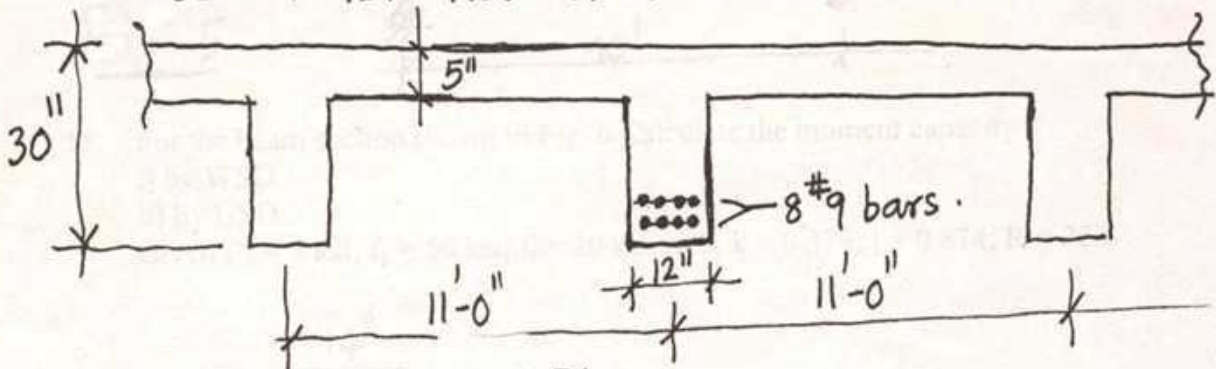

Fig. 2
7. A floor slab, 5 inch thick, is supported by simply supported beams having span of 32 ft. and spaced 11 ft. c/c is shown in Fig. 2. The beams are reinforced with 8 nos. # 9 bars as shown. Compute design moment for a beam and then determine the allowable live load on the slab. FF = 20 psf; Random Wall Loads = 30 psf. Given $f'_c = 3$ ksi; $f_y = 50$ ksi; $f_s = 20$ ksi; $n=9$; $k = 0.378$; $j = 0.874$; $R = 223$.